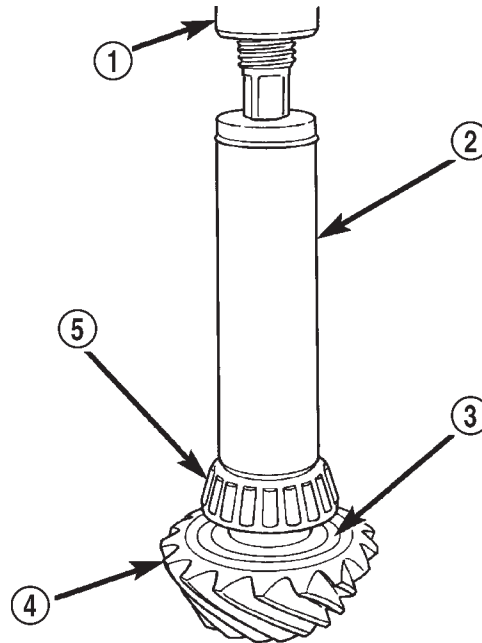

Fig. 46 Rear Pinion Bearing Installation
(6) Install the rear pinion bearing and pinion depth shim/oil baffle onto the pinion gear with Installer W-262 and a shop press (Fig. 46).